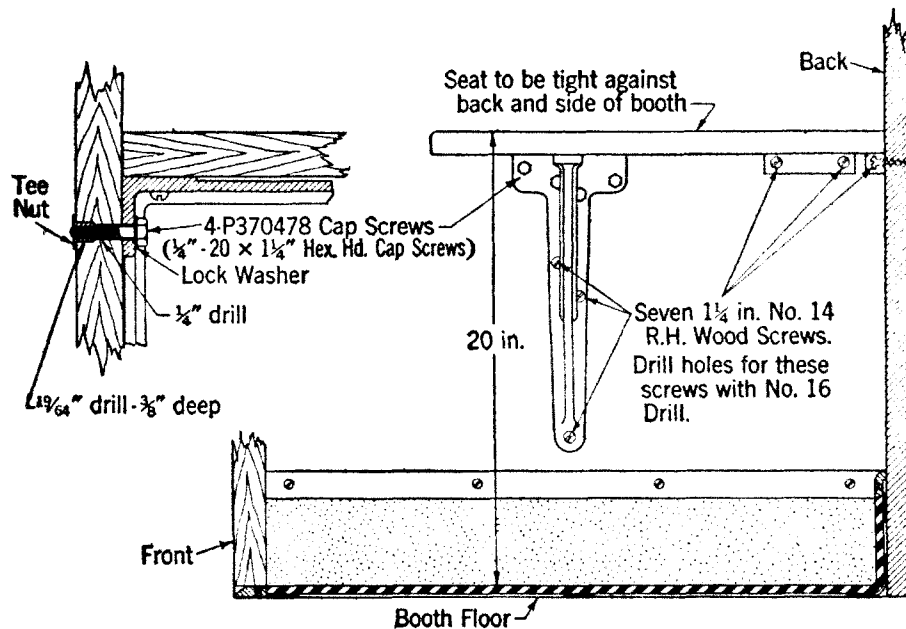

Fig. 10
- (a) If seat bracket is not provided with 4 drillings at top as shown in Fig. 10 or (Fig. 15, Section C44.111) obtain and install a new 101T or 101U seat assembly.
(b) If booth is located so that left side can be worked at from the outside of booth, remove the end panel and drill side for cap screws and tee nuts and reinstall seat in accordance with Fig. 10.